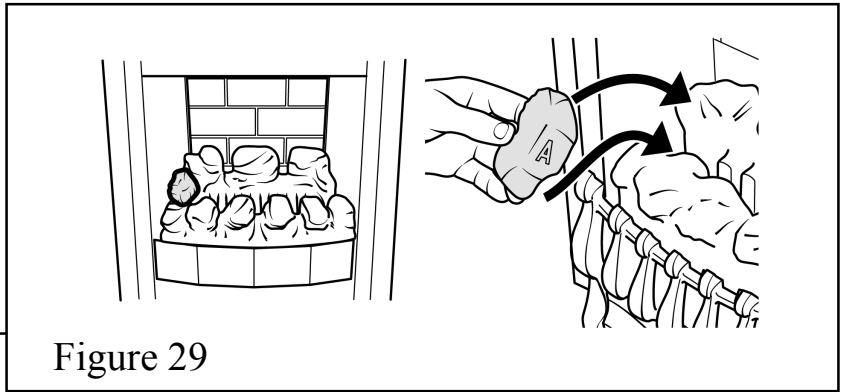

Figure 29
5. Place a type "A" coal between the front and rear base coals with the letter "A" upright and so that the coal is against the left side of the firebox. See figure 29.